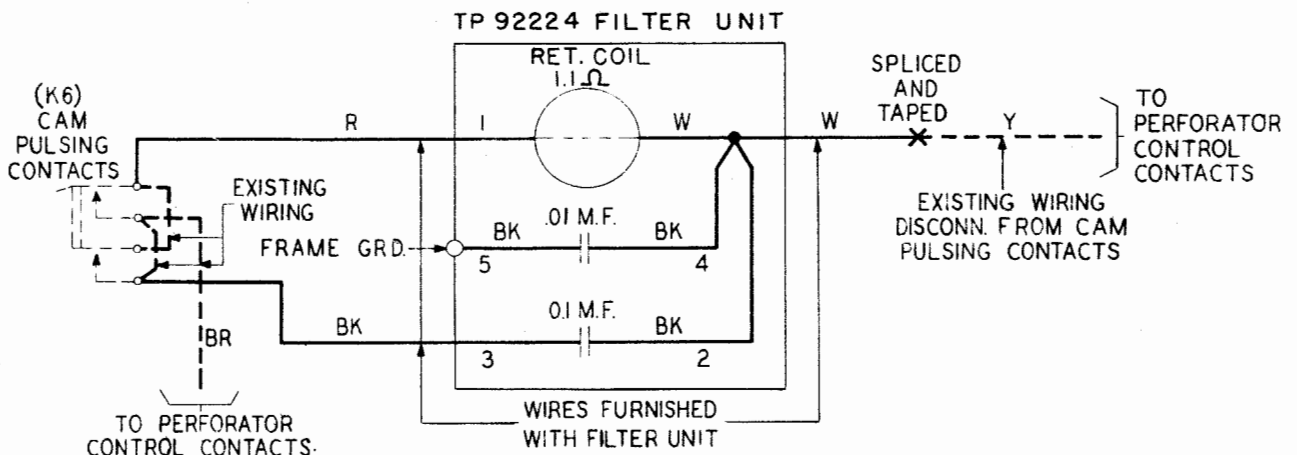

Figure 1
2.02 Refer to Figure 1 and connect the leads of the TP92224 filter unit as follows: